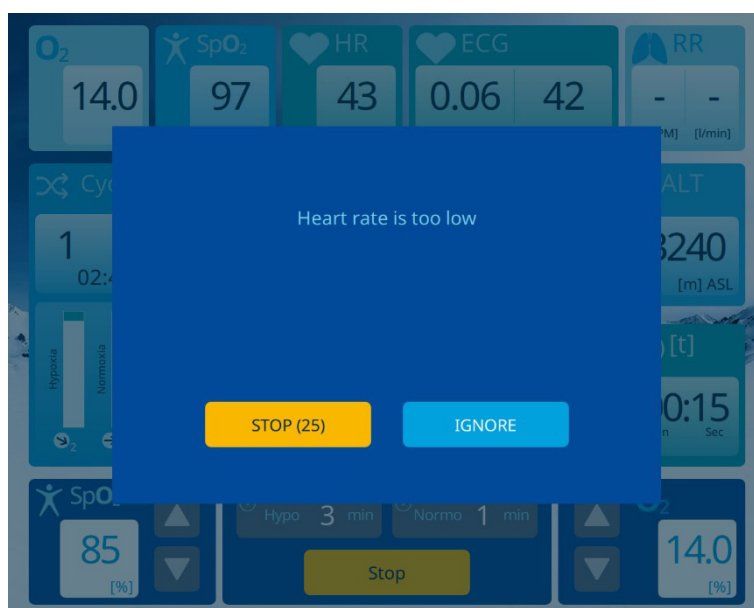

Figure 19 – “Heart rate is too low” message
- “Heart rate is too low” (Figure 19).